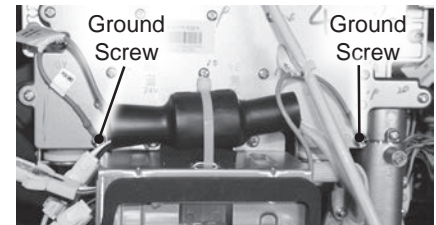

Figure 120 - Removing green ground wires
**6** Locate both green ground wires attached to gas manifold cover. Remove the two screws securing the green ground wires and place them aside in a safe place for reinstallation. See Figure 120.